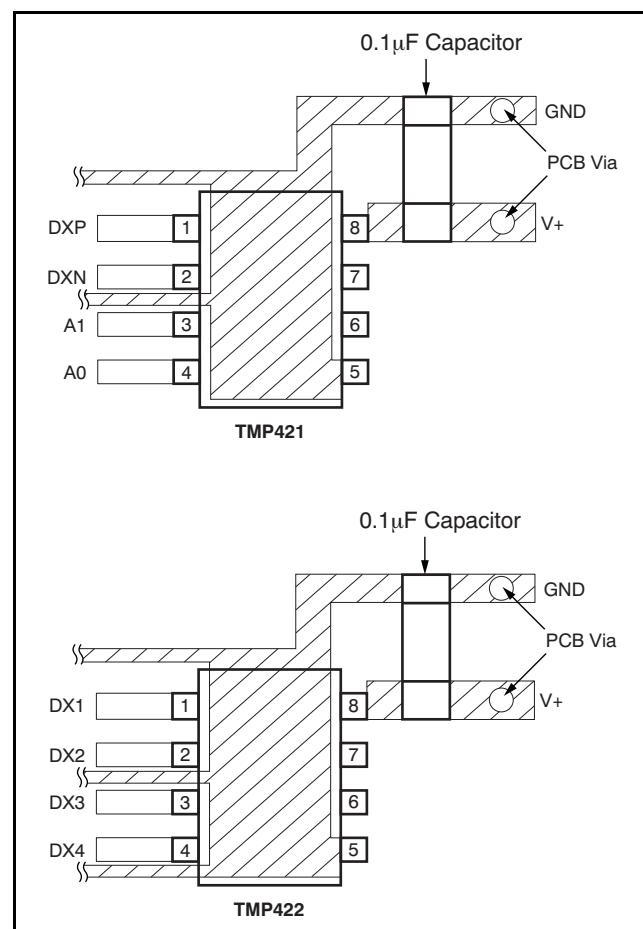

Figure 20. Suggested Bypass Capacitor Placement and Trace Shielding
4. Use a $0.1\mu F$ local bypass capacitor directly between the V+ and GND of the TMP421/22, as shown in Figure 20. Minimize filter capacitance between DXP and DXN to 1000pF or less for optimum measurement performance. This capacitance includes any cable capacitance between the remote temperature sensor and TMP421/22.